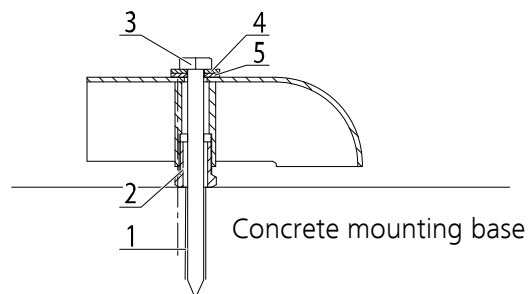

Fig. 9: Fasteners (metric parts are part of the delivery, imperial sizes can be used instead, 3/8" screw size)
5. Use the washers and screws (supplied) to pre-assemble the CHM 15k (see Fig. 9) so it is preliminarily fixed on its concrete base.